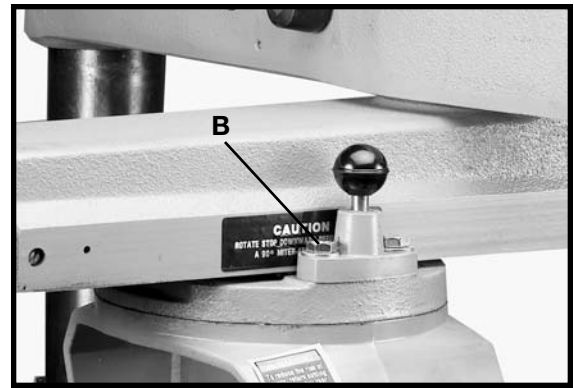

Fig. 28
3. Remove left screw (B) Fig. 28, from yoke assembly.